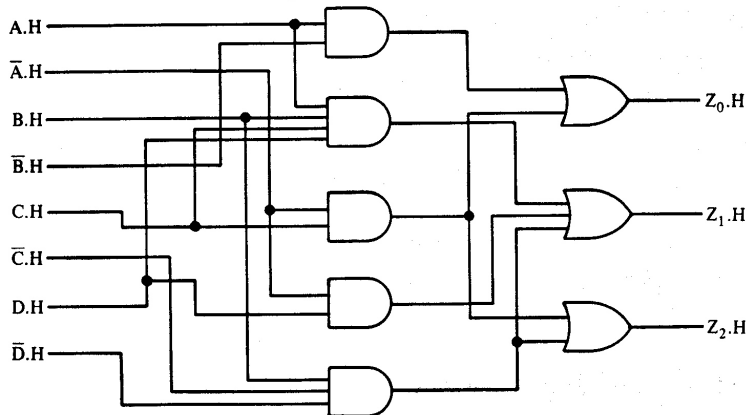

Figure 6.35 Logic diagram for Problem 6.9.
6.9. Transform the logic diagram of Fig. 6.35 into a PLA circuit diagram similar to the one shown in Fig. 6.10(b).